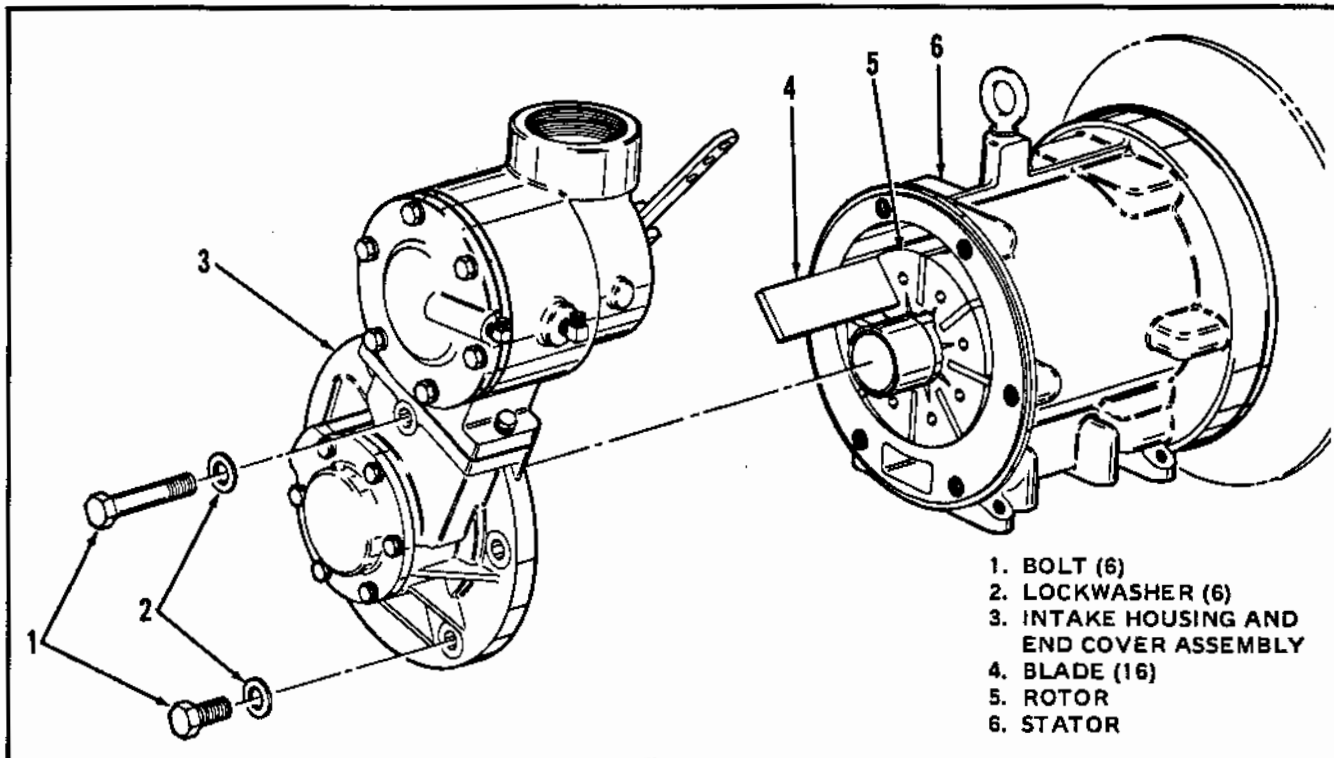
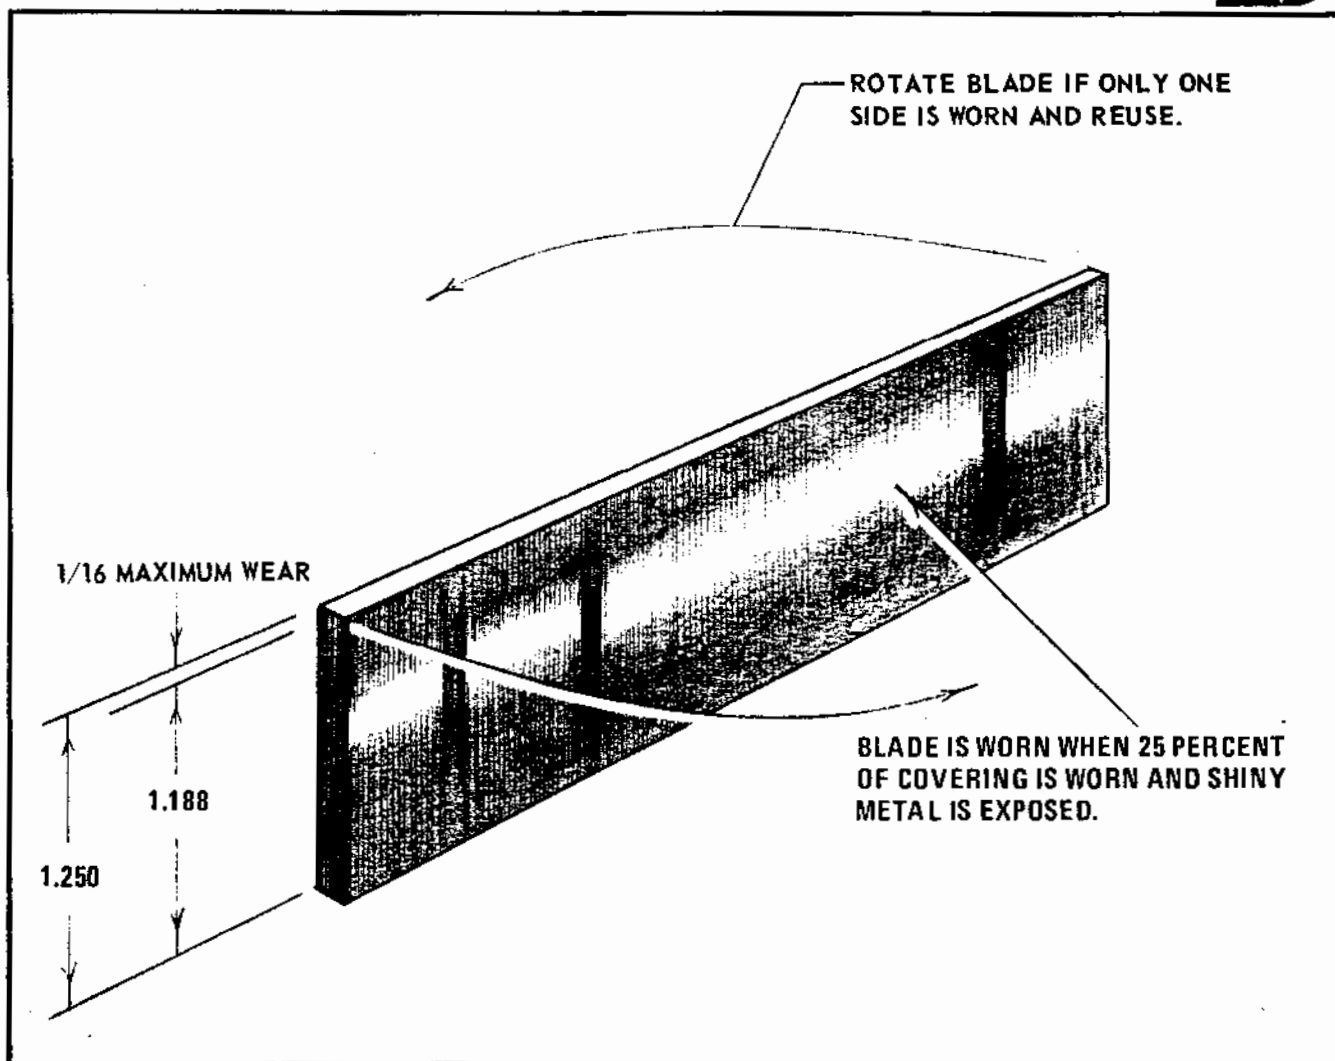

Figure 3-3. Compressor Inspection
Figure 3-4. Rotor Blade Inspection
3-6. AIR COMPRESSOR INSPECTION (Fig. 3-3). Periodic inspection of the compressor assembly rotor blades (4) every 4000 hours of operation will ensure that unit maintains a high degree of efficient performance without the need for a major overhaul.
- b. Remove end cover (3, Fig. 3-3) with intake control and bearing cover attached.
- c. Remove blades (4, Fig. 3-3) and inspect for evidence of excessive wear. See figure 3-4. Blades are excessively worn when 25 percent of covering is removed exposing shiny metal. Blades worn on one side only may be turned around and reinstalled. Replace blades when 1/16-inch in height is lost due to wear. Replace blades when scored, chipped or both sides are worn.
For blade and rotor inspection, it is only necessary to remove non-drive end cover (3, figure 3-3) with intake control and bearing cover attached. Refer to paragraph 3-6.
- c. Remove minor nicks or scratches from machined surfaces of rotor (5, Fig. 3-3) and stator (6, Fig. 3-3) with a fine honing stone or emery cloth. If excessive scoring or chipping is evident replace damaged parts.